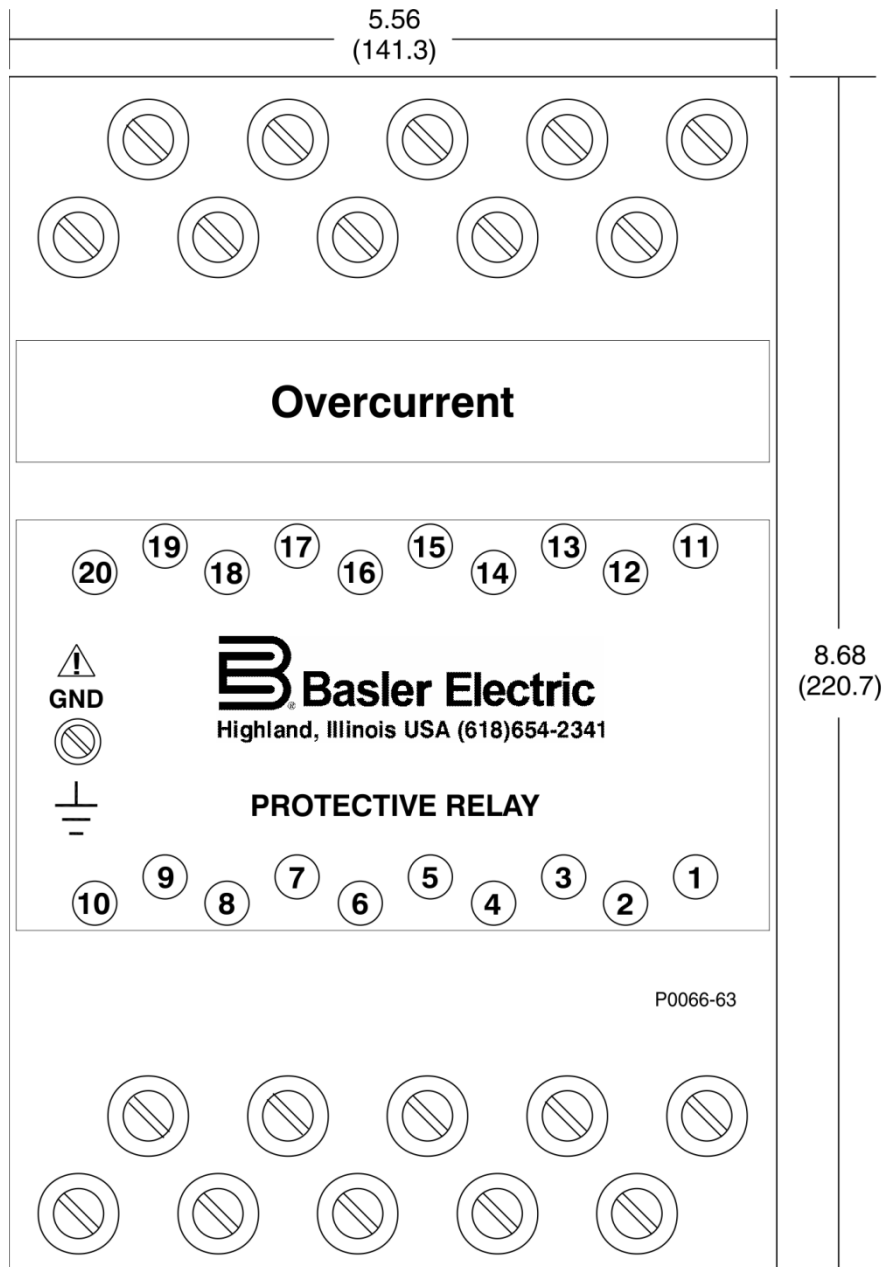

Figure 4-2. S1 Case Dimensions, Rear View, Double Ended, Semi-Flush Mount
- Figure 4-2: S1 Case Dimensions, Rear View, Double Ended, Semi-Flush Mount